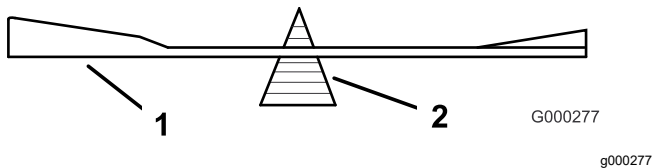

Figure 85
2. Check the balance of the blade by putting it on a blade balancer (Figure 85).